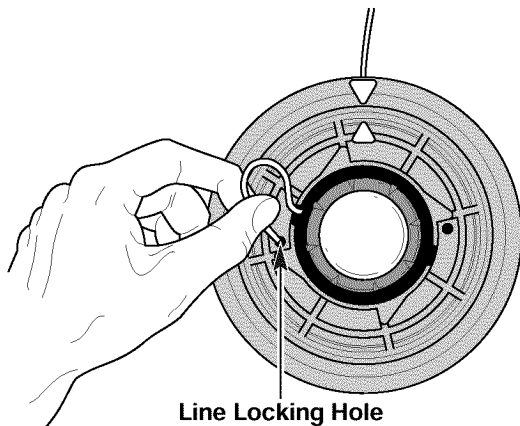

Fig. 18
5. Insert the line into the locking hole (Fig. 18). Do not push the line more than a 1/2 inch (12.7 mm) into the line locking hole. The line will form a small loop (Fig. 18) when it is inserted correctly.